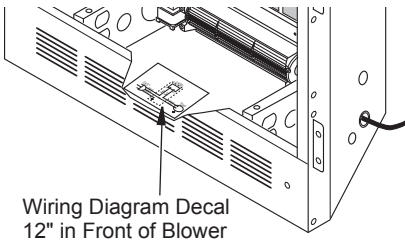

Figure 27 - Location of Wiring Diagram Decal (Model May Vary From Illustration)
10. Peel off backing paper and stick supplied wiring diagram decal on firebox bottom approximately 12" in front of blower (see Figure 27).
11. Peel off backing paper and stick supplied wiring diagram decal on firebox bottom approximately 12" in front of blower (see Figure 27, page 20).